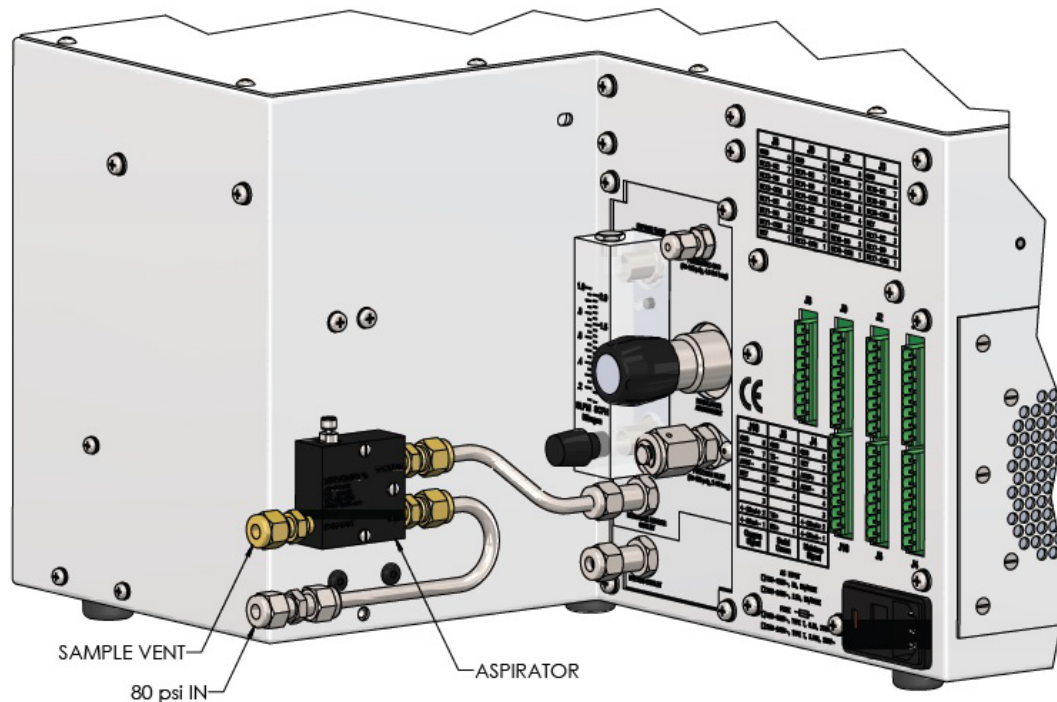

Figure 11: Aspirator Installation
6. If the analyzer is configured with an aspirator, connect the 80psi gas feed line to it. The aspirator requires 15 LPM at 80 PSI for optimum operation. Refer to **Figure 11** below.